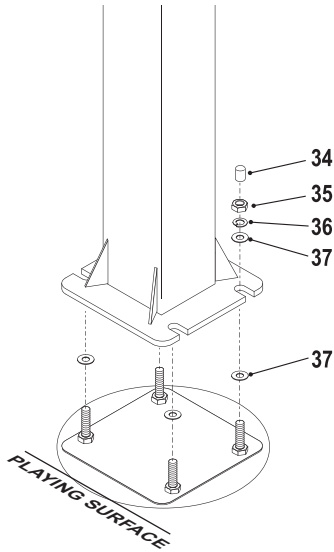

Figure 8
14. Put a flat washer (#37) on each anchor bolt. Lift post onto anchor system and secure with one flatwasher (#37), one lock washer (#36) and one hex nut (#35) for each anchor bolt. See Figure 8. Tighten all four hex nuts tight. Place a thread protector (#34) on each anchor bolt.